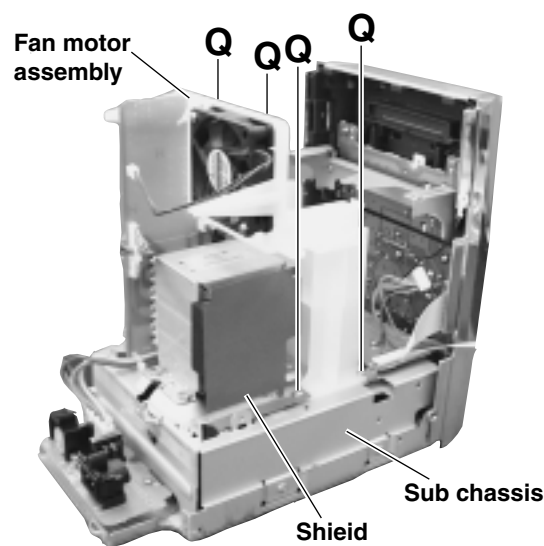

Fig.10
■ Removing the fan motor assembly and fan motor (See Fig.10 and 11)